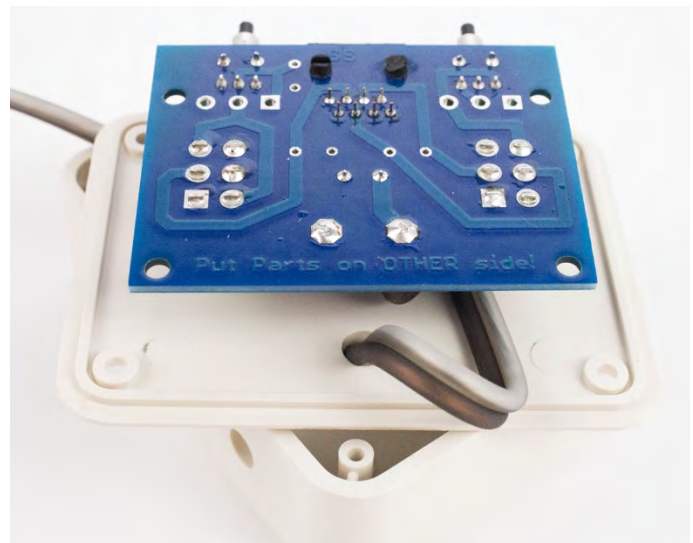

Figure 28
- ❑ Trim the excess wire with the diagonal cutting pliers, being careful not to cut too close to the PCB and the solder joint. Hold one hand over the wires while trimming or point the wire ends toward the worksurface to prevent the wires from becoming airborne. (Figure 28)